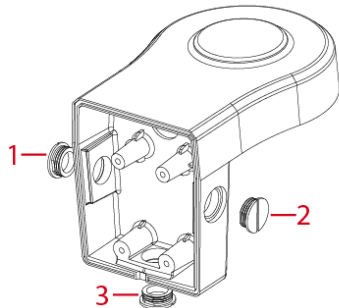

Figure 1
- Insert all cables into the back of the wall mount bracket and use the three waterproof screws (1,2,3 - Fig.1) to seal the three holes on the wall mount bracket.